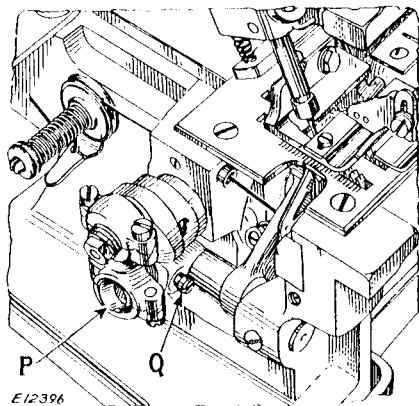

Fig. 12.
A variation in the amount of the looper motion can be obtained by adjusting the ball stud (P, Fig. 12). To increase this motion, loosen the set screw (Q) in the looper lever and move the ball stud (P) inward, or toward the looper lever. To decrease the motion, move the ball stud outward, or away from the looper lever.